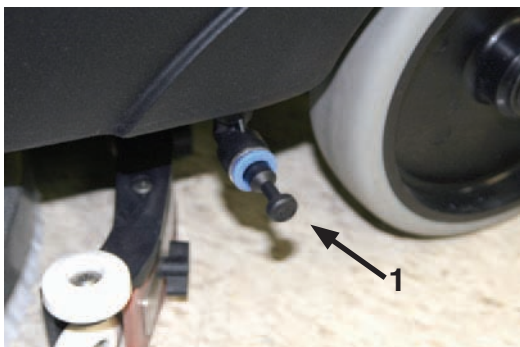

Fig 19
- Turn the drain connector outwards (Fig 19).